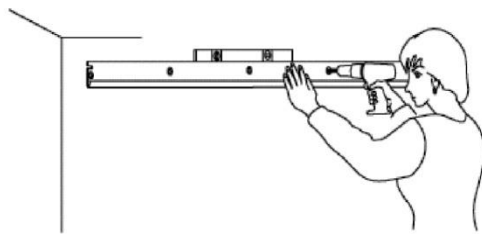

FIG. A-3
Attachment of Top Track to Wall Surfaces: (Fig. A-3)
6. For hollow walls; (Fig. A-3) Use 2-1/2" long toggle bolts with expanders. Insert all toggle bolts through top track and attach all toggle bolt expanders. Omit toggle bolts that fall in line with X or wood studs. Insert toggle bolts with expanders into holes in wall before starting step 9.